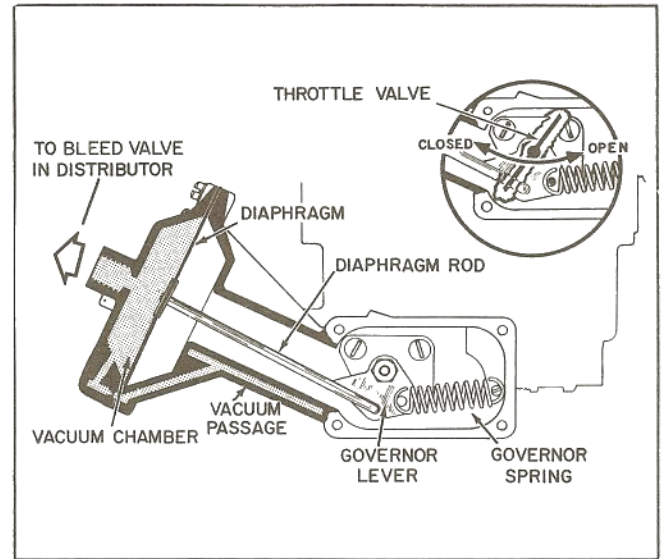

FIGURE 14
Operation (Figs. 14 and 15)
1. A vacuum diaphragm and connecting linkage mounted on the carburetor throttle body. Fig. 14.